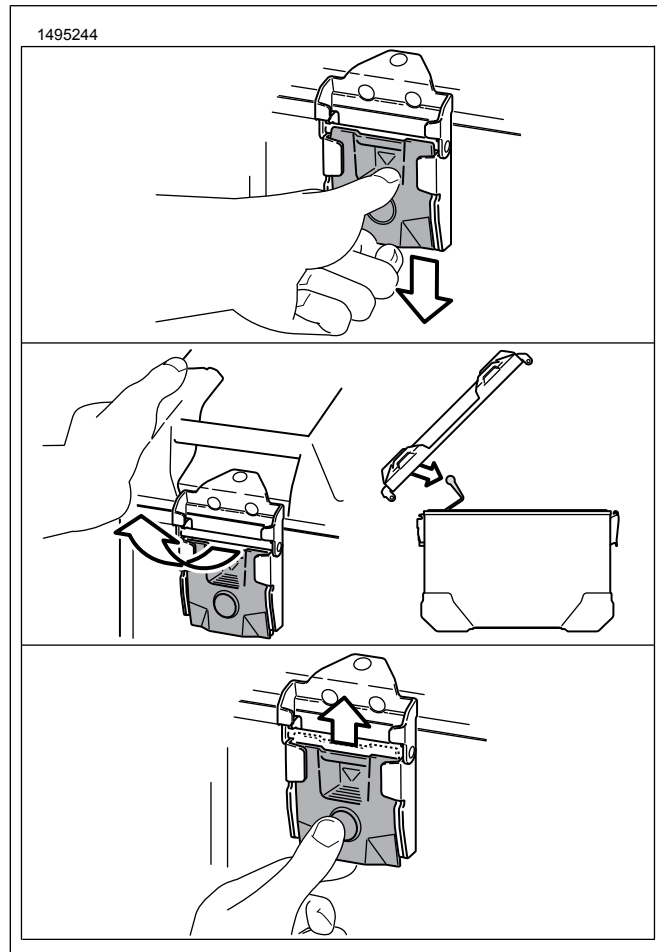

Figure 5. Lid Removal
1. Figure 5 Press quick release fastener down until it clicks into place and button pops out.